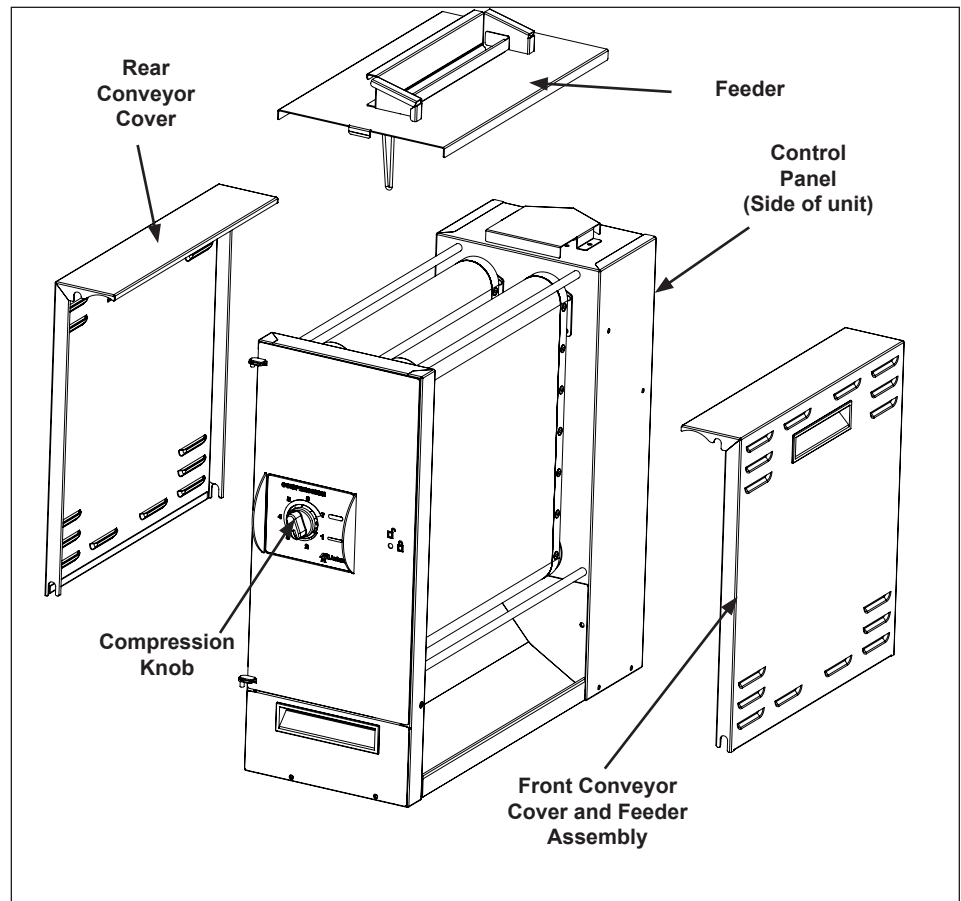

Figure 1. Components
2. Attach the Feeder (Figure 1.)